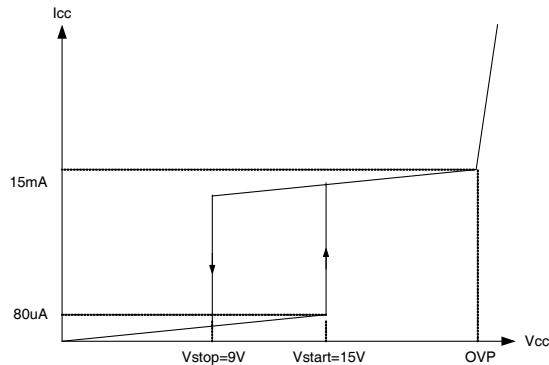

Figure 22. High Voltage Current Source
**1. Start up:** To guarantee stable operation of the control IC, FS8S0765RCB has UVLO circuit with 6V hysteresis band. Figure 22 shows the relation between the supply current ( $I_{cc}$ ) and the supply voltage ( $V_{cc}$ ). Before  $V_{cc}$  reaches 15V, the FPS consumes only startup current of 80mA, which is usually provided by the DC link through the start-up resistor. When  $V_{cc}$  reaches 15V, the FPS begins operation and the operating current increases to 15mA as shown. Once the control IC starts operation, it continues normal operation until  $V_{cc}$  goes below the stop voltage of 9V.